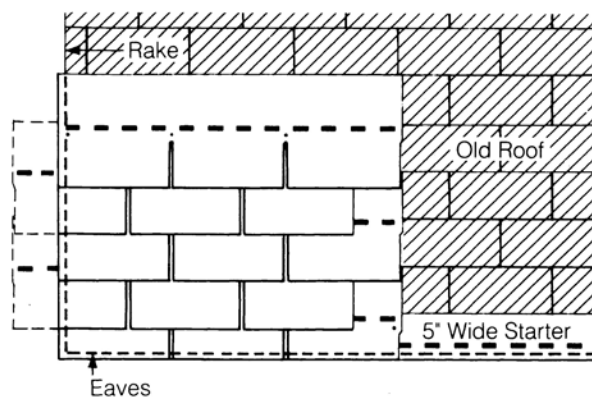

Figure 12-21: Vertical Racking, Nested.
2. Cut 6" off one side of the first starter shingle and install the 30" piece over the first course of the old shingles, at the lower left corner. This, and all other shingles, must nest with the butt edges of the old shingles (*Figure 12-21*).
2. Align the top edge of the 10" strips so they butt up (nest) against the tabs of the shingles in the old third course (*Figure 12-21*).
1. Cut 6" off the left end of a full shingle. Nest the top edge of this new 12" by 30" piece of shingle up against the bottom edge of the shingles in the old fourth course (*Figure 12-21*).
1. Begin the application of succeeding courses by alternating the use of full shingles and 30" shingles (6" off the left end) up the rake in a single column (*Figure 12-21*).